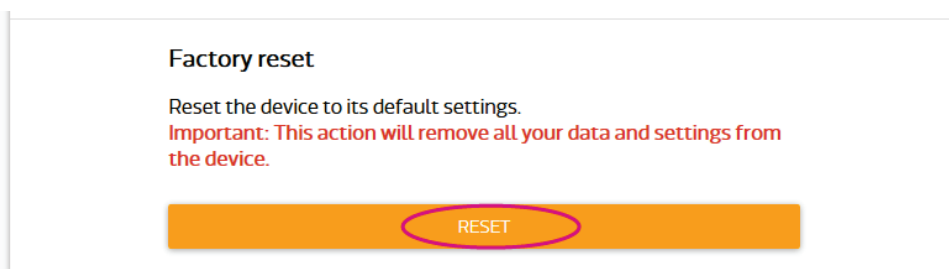

Figure 18 Factory Reset using LinkIt Smart 7688 Web UI
- 1) Sign in the Web UI 2.4.1" Accessing Web UI" and click the Reset button under Factory Reset, as shown in Figure 18.